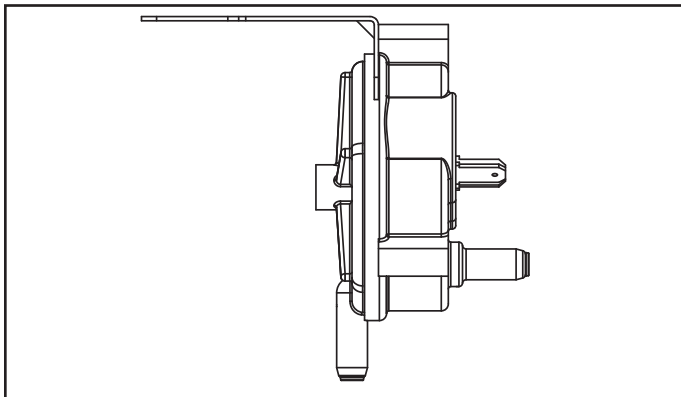

Figure 17. Pressure Switch
2. Remove input connectors J48 and J49 from motor. See Figure 17 for troubleshooting procedure.